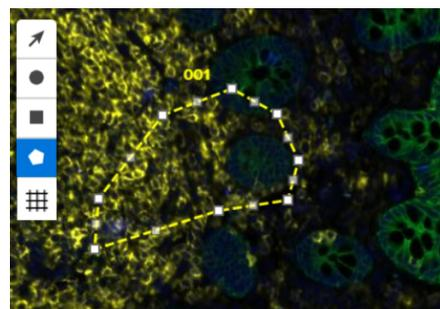

Figure 32: Scan Workspace polygon button
1. Select the **polygon button** from the Scan Workspace (Figure 32).